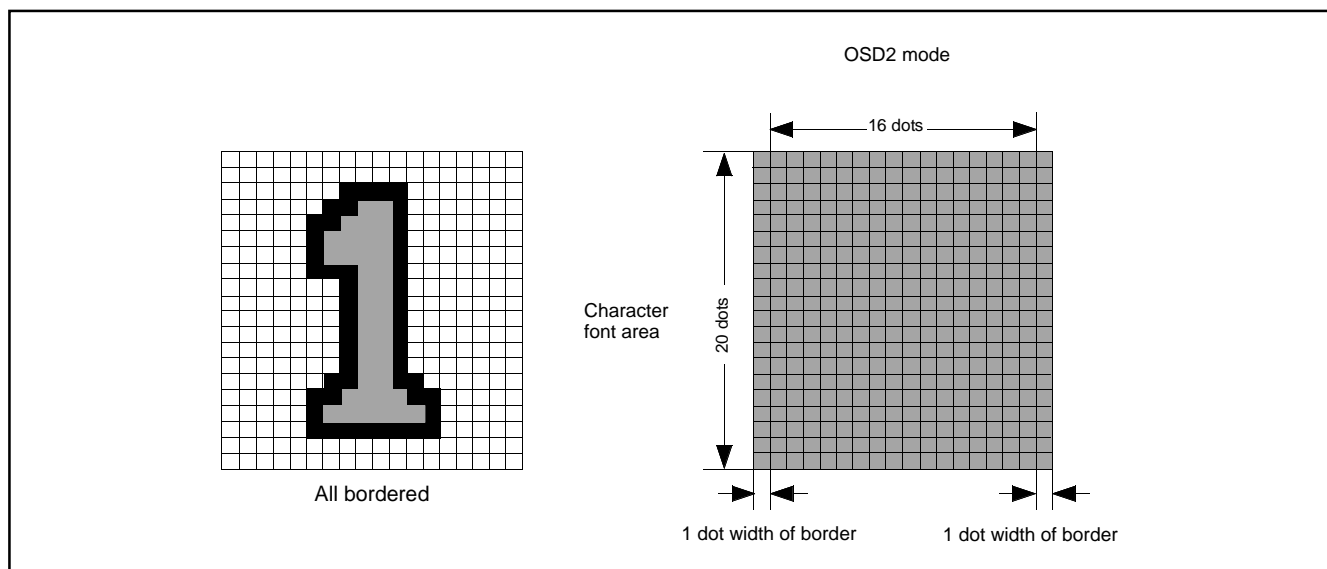

Fig. 8.10.21 Example of Border Display
**Notes 1 :** The border dot area is the shaded area as shown in Figure 8.10.21.